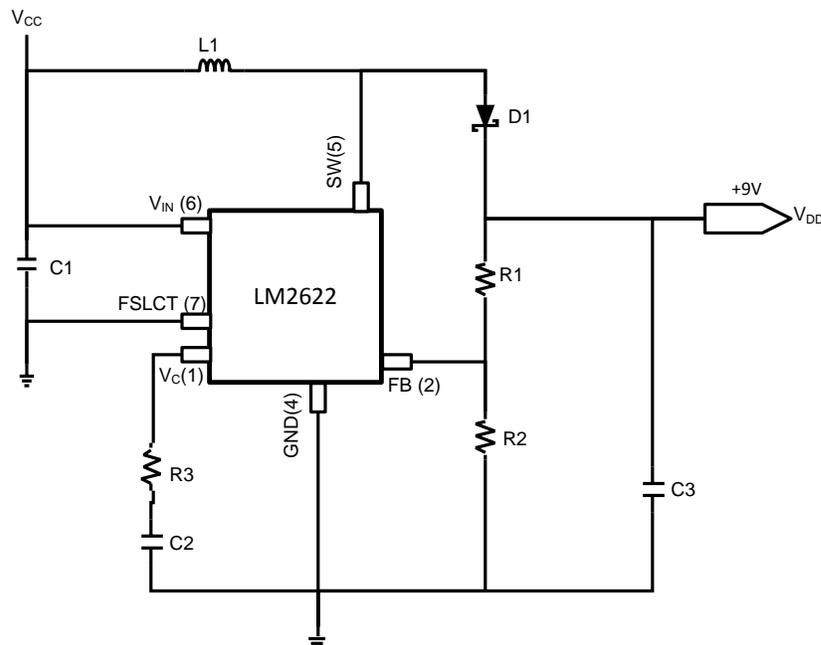
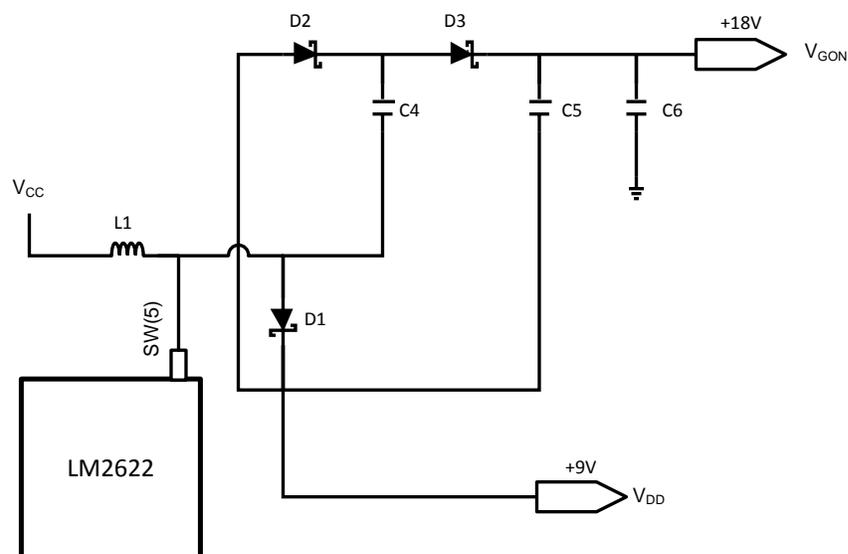

Figure 3. Using the LM2622 to Generate +9.0V DC
Figure 4. Using the LM2622 to Generate +18.0V DC Unregulated
Figure 3 shows an example of how to generate +9.0V using the LM2622. In this configuration, the LM2622 is set to operate at 600kHz (it can also operate at 1.3MHz if the FSLCT pin is tied high). The circuit comprising of L1, D1, C3, and the SW pin of the IC operate as described above in Figure 1 and Figure 2. The analog output voltage is controlled by the resistor-divisor of R1 and R2. The voltage on the FB pin is internally fixed at +1.26V, so in order to have a +9.0V output, resistor values of 51kΩ for R1 and 8.3kΩ for R2 can be used. Voltages other than +9.0V can be generated by changing the ratio of R1 and R2.
There are six main recommendations for implementing the circuit shown in Figure 3.
2. All the filter capacitors should be placed as close to the IC as possible. The filter capacitor is shown as C1 in Figure 3. Keeping the filter capacitors close to the IC reduces the affects of the trace inductance. All the board components should be surface mount to save space and lead length.
3. Place the inductor, the diode and the capacitor that bypasses the +9.0V supply as close together as possible. In Figure 3, these are L1, D1, and C3. This will help reduce EMI, noise, ringing, and other unwanted supply effects.
In Figure 4 below, only the components needed to generate the +18V supply are used. The remaining components (as shown in Figure 3) are not shown. The charge pump works in 2 stages. First, when the switch on the LM2622 is closed, C4 charges to approximately +9.0V. When the switch is open, D2 conducts and the voltage across C5 is +9.0V. Because C5 is referenced to +9.0V node, the voltage is +18V (developed across C6) when referenced to ground. The +18V supply is unregulated, but sufficient to provide the "on" voltage for the row drivers. It is also possible to add an additional capacitor charge pump stage to bring the total generated voltage to +27V. In general, this configuration can provide either a 2x or 3x multiple of the column driver analog output voltage as the row driver "on" voltage.